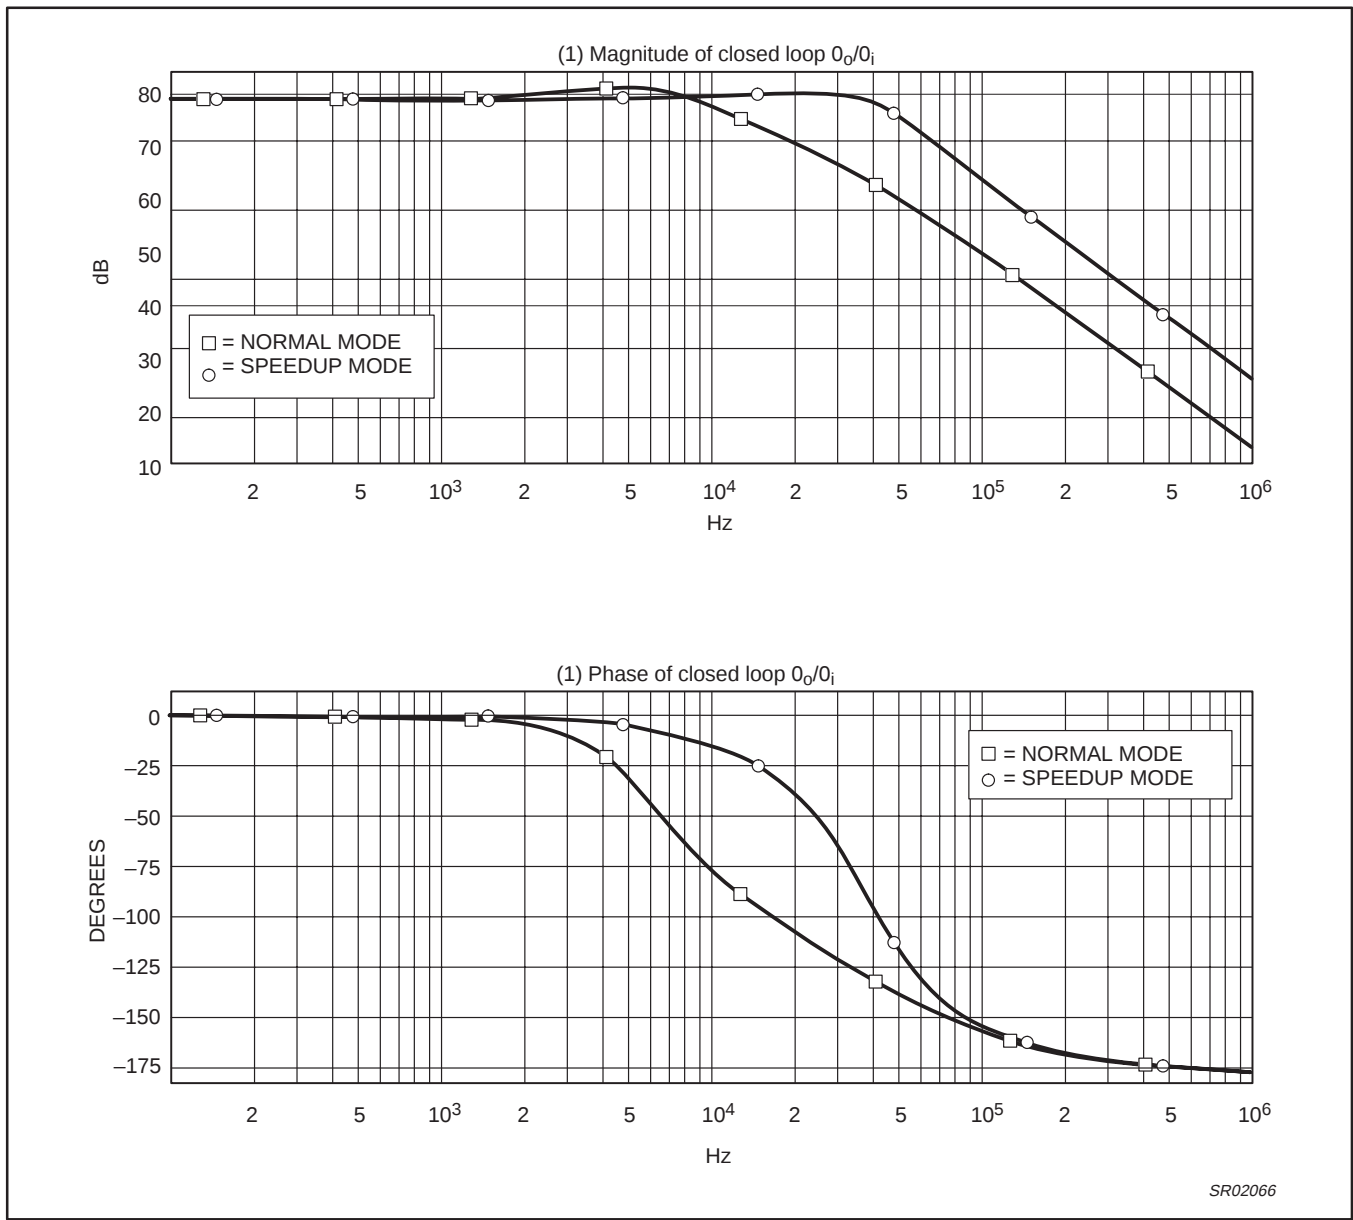
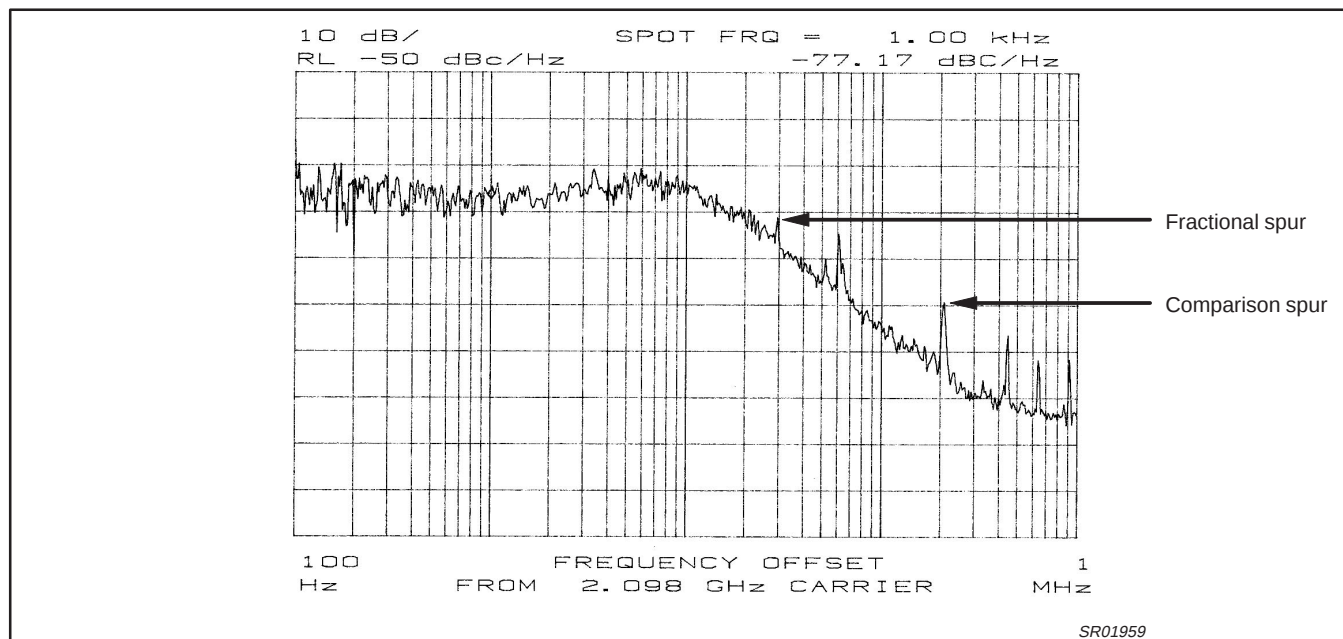

Figure 38. Closed loop response for design example.
Figure 39. Loop bandwidth normal mode: CP = 10
Loop BW calculated from Equation (17) in Section 3.1. "Loop Filter Design" is 12.13 kHz. Figures 39 and 40 show the actual loop bandwidth which correlates well with the design equations and simulated results of Figure 38.